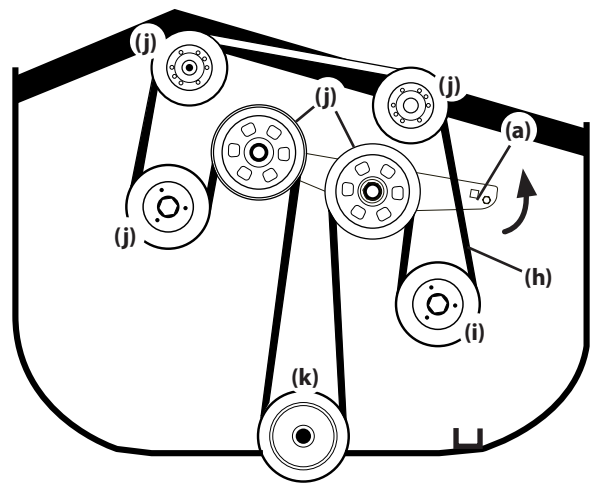

Figure 35
5. Using a 1/2" (12.7 mm) drive in the idler pulley bracket (g), turn the wrench towards the front of the mower and slide the PTO drive belt (h) off the right spindle pulley (i) (Figure 35).